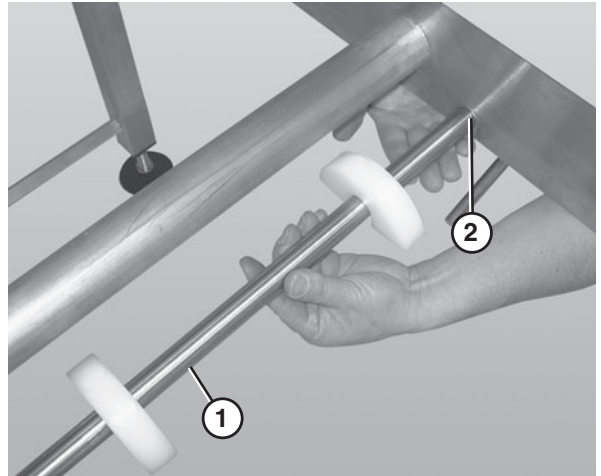

Figure 50
1. Remove the belt returns by pushing up on the return shaft (**Figure 50, item 1**) and sliding it through the large hole (**Figure 50, item 2**) in the frame.
2. Lower the opposite end of the return shaft (**Figure 50, item 1**) and slide it out of the frame.